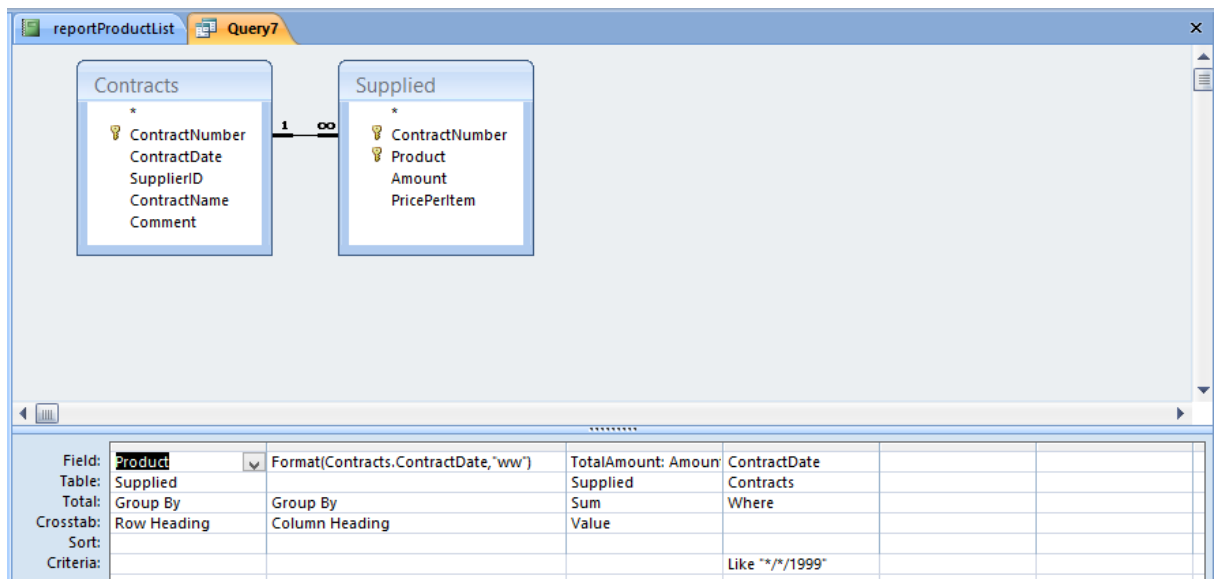

Figure 5.5
1. Create new query “query1999ProductSuppliesSQ” using the following query or query designer (figure 5.5):